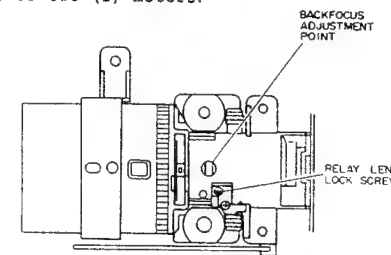

Fig. 4-4
(5) Backfocus Adjustment (Fig. 4-4)